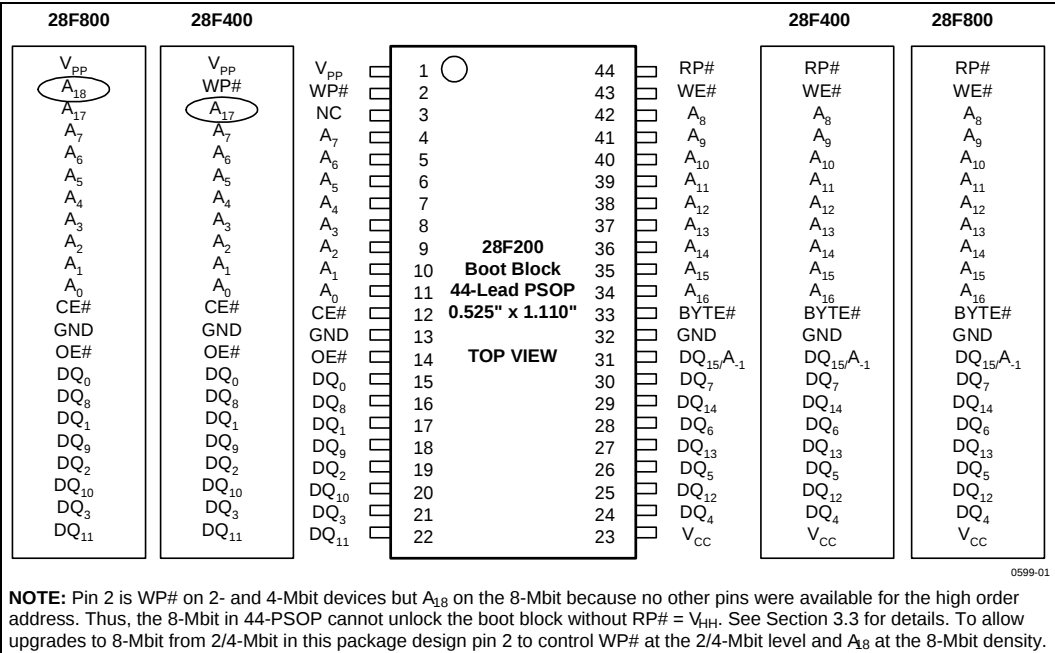
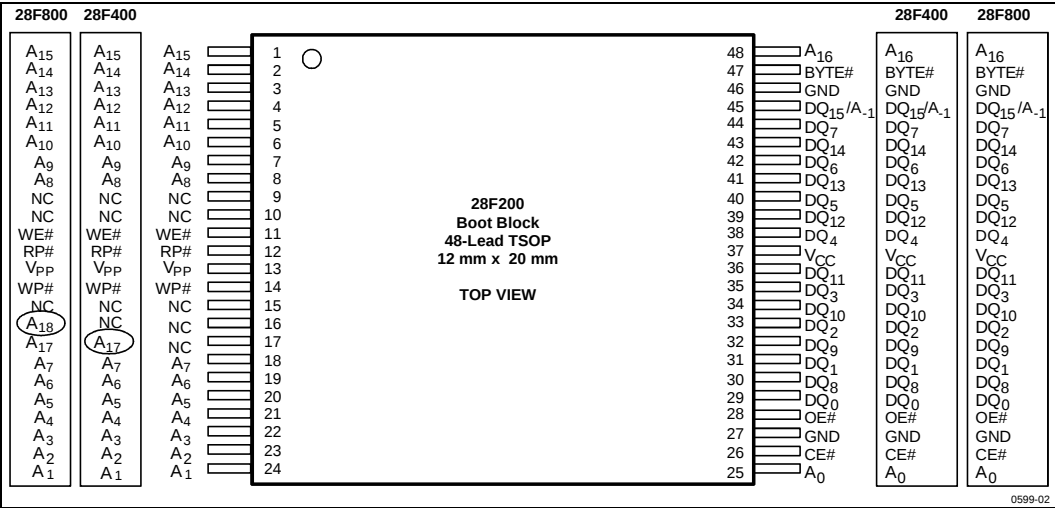

Figure 1. 44-Lead PSOP Pinout Diagram
Figure 2. 48-Lead TSOP Pinout Diagram
-002	Minor changes throughout document. Section 3.1.5 and Figure 14 redone to clarify program/erase operation abort. Information added to Table 2, Figure 1, and Section 3.3 to clarify WP# on 8-Mbit, 44-PSOP. Read and Write Waveforms changed to numbered format. Typical numbers removed from DC Characteristics and Erase/Program Timings.
-003	Minor text changes throughout document. Figure 1, 44-PSOP pinout: mistake on pin 3 on 2-Mbit pinout corrected from A ₁₇ to NC. Specs t_{EHQZ} and t_{GHQZ} improved. Explanations of program/erase abort commands reworked in Table 6, Command Codes.
These 5 Volt Boot Block Flash memory products are available in the 44-lead PSOP (Plastic Small Outline Package), which is ROM/EPROM-compatible, and the 48-lead TSOP (Thin Small Outline Package, 1.2 mm thick) as shown in Figure 1, and 2, respectively.
Intel® 5 Volt Boot Block Flash architecture provides upgrade paths in each package pinout up to the 8-Mbit density. The 44-lead PSOP pinout follows the industry-standard ROM/EPROM pinout, as shown in Figure 1. Designs with space concerns should consider the 48-lead pinout shown in Figure 2. Applications using an 8-bit bus can use the 40-lead TSOP, which is available for the 4-Mbit device only.